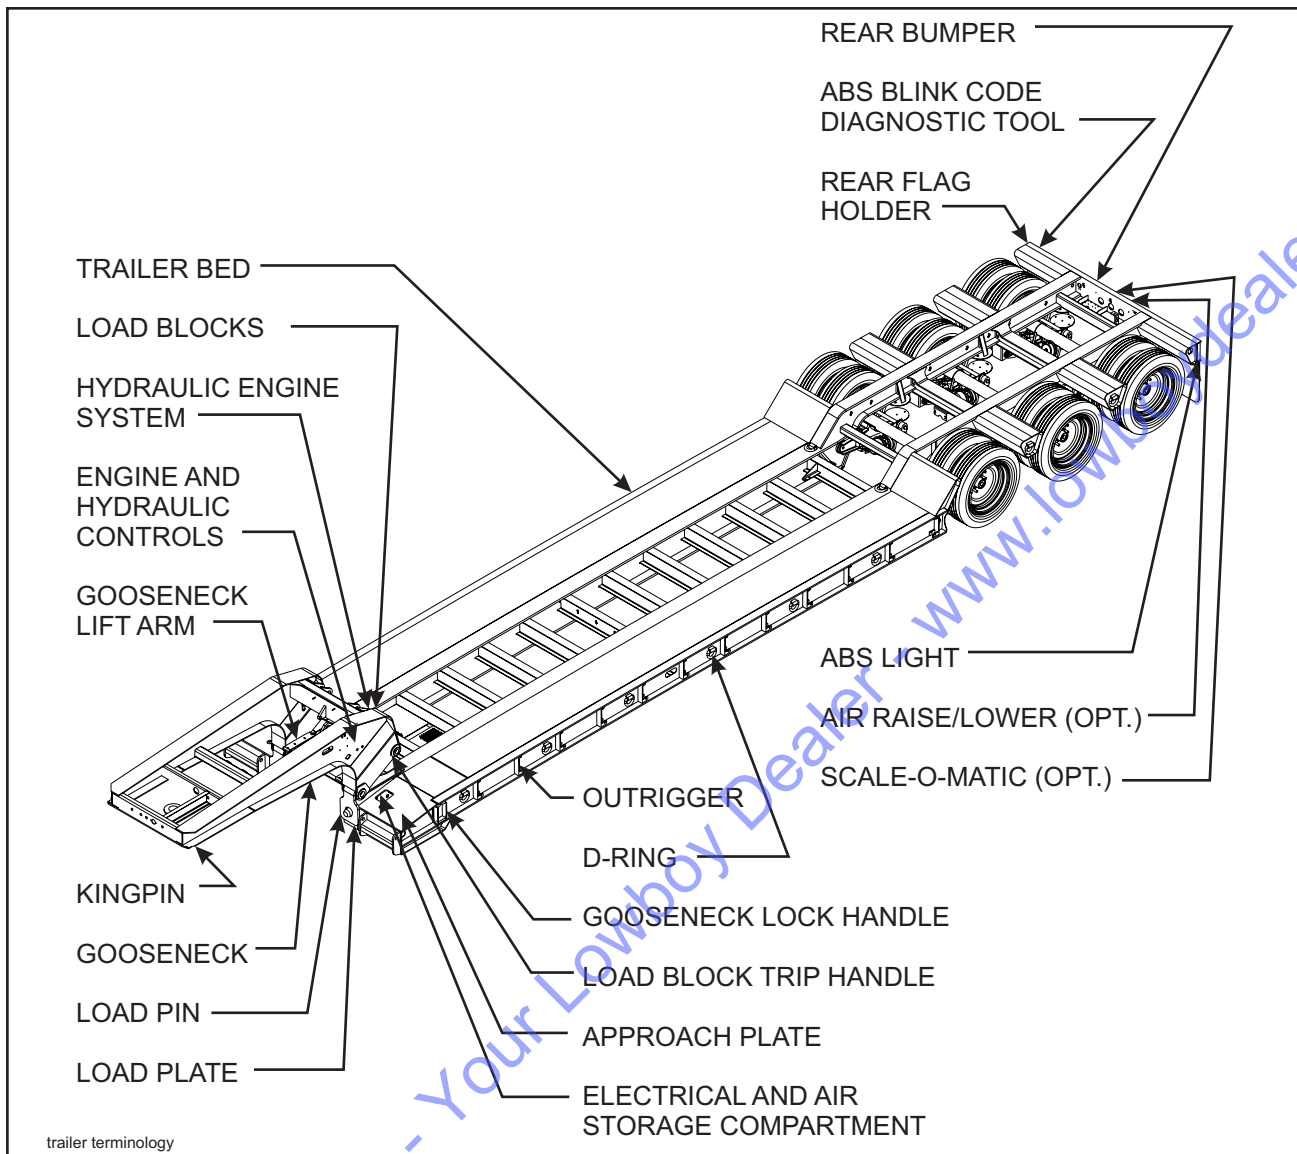

Figure 3-1 Models 325/326/327/329C Trailer Terminology
This section supplies information for operation of the semitrailer. It describes and locates controls and gives general operation procedures. Read all instructions, warnings, cautions, and danger notes before attempting to operate the semitrailer. Operators must have proper training before operating the semitrailer. (See Figure 3-1 for location of semitrailer parts.)
- 3-5.3 Using the **TRAILER LIFT lever** (See Section 3-12), lift the trailer up until the load blocks can be lowered into position (See Figure 3-1).
- 3-5.5 Activate the **TRAILER LIFT lever** (See Section 3-12) "DOWN" until the semitrailer rests completely on the load blocks (See Figure 3-1).